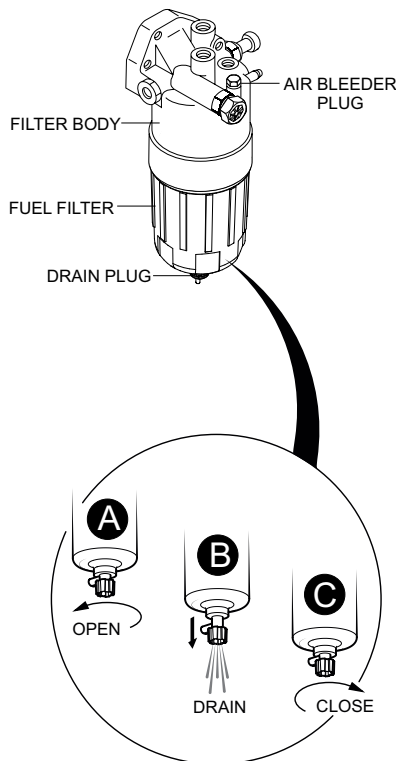

Figure 55. Draining Fuel Filter
Inspect the fuel filter **daily**. If the fuel filter (Figure 55) has collected a significant amount of water and sediment at the bottom of the cup, it should be drained off immediately.
1. Loosen the air bleeder plug (Figure 55) on the fuel filter body.
2. To discharge the fuel inside the fuel filter **OPEN** the drain valve on the fuel filter by turning the knob **counterclockwise (A)** approximately 3-1/2 turns until the valve drops down 1-inch (25.4 mm) and draining occurs **(B)**.